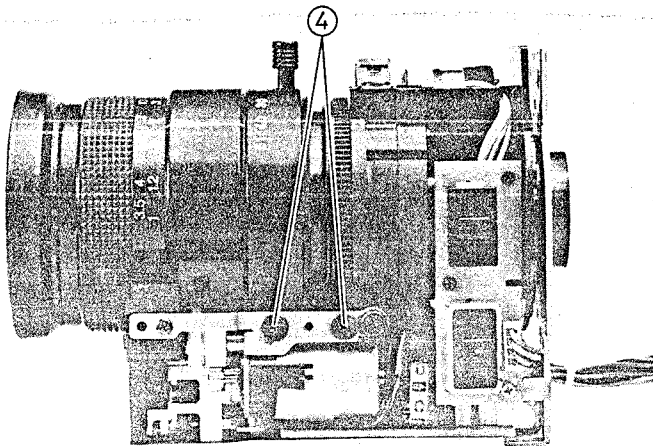

Fig. 2-135 Auto Focus Motor Removal
4. Remove two (2) screws holding the auto focus motor. (See Fig. 2-135)